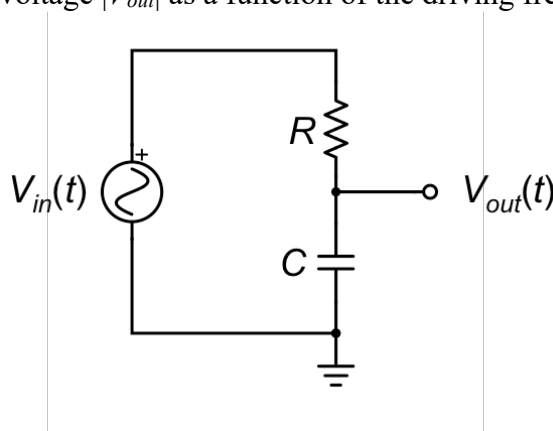

Figure 1 – The low-pass filter circuit.
In this portion of the lab, you will construct the RC circuit shown in Figure 1. You will then measure the amplitude of the output voltage $|V_{out}|$ as a function of the driving frequency f .
2. Construct the circuit in Fig. 1 using $R = 1 \text{ k}\Omega$ and $C = 0.033 \text{ }\mu\text{F}$. Use the Extech handheld DMM to check the resistor before you put it in your circuit.